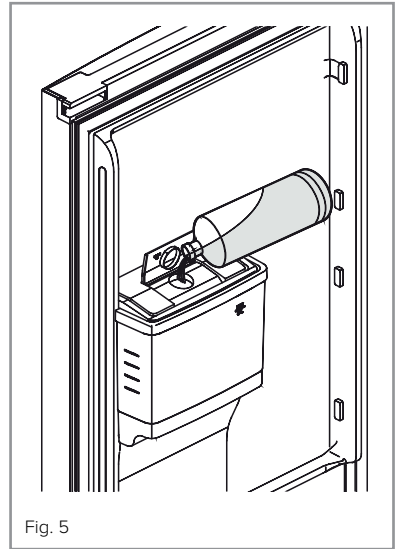

Fig. 5
- Open the hinged lid and fill with clean cold water (Fig. 5).